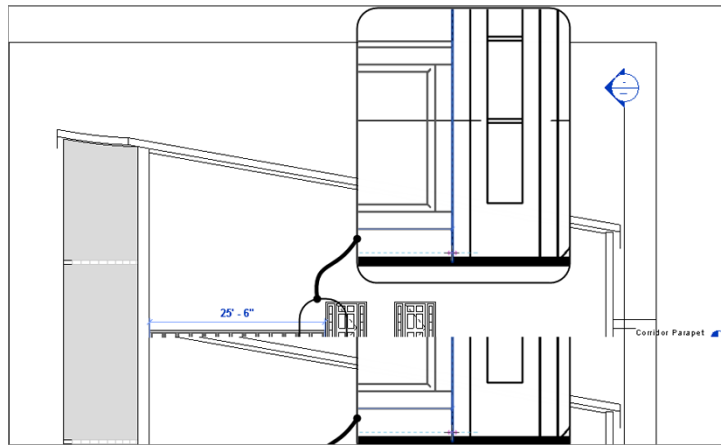

FIGURE 10.79: Adding the line-based, raised-panel family
16. On the Modify-Place Component tab, click the **Place On Work Plane** button, and pick the base point shown in Figure 10.79.
NOTE If you can't seem to pick the points specified in Figure 10.79, go ahead and pick two points close to the area indicated in the figure. After you place the line-based family, you can select it and grip-edit the ends to extend to the wall's edges as shown in the figure. Also, if the panels are too high, simply move them down to the floor or align them after the panels are in place.